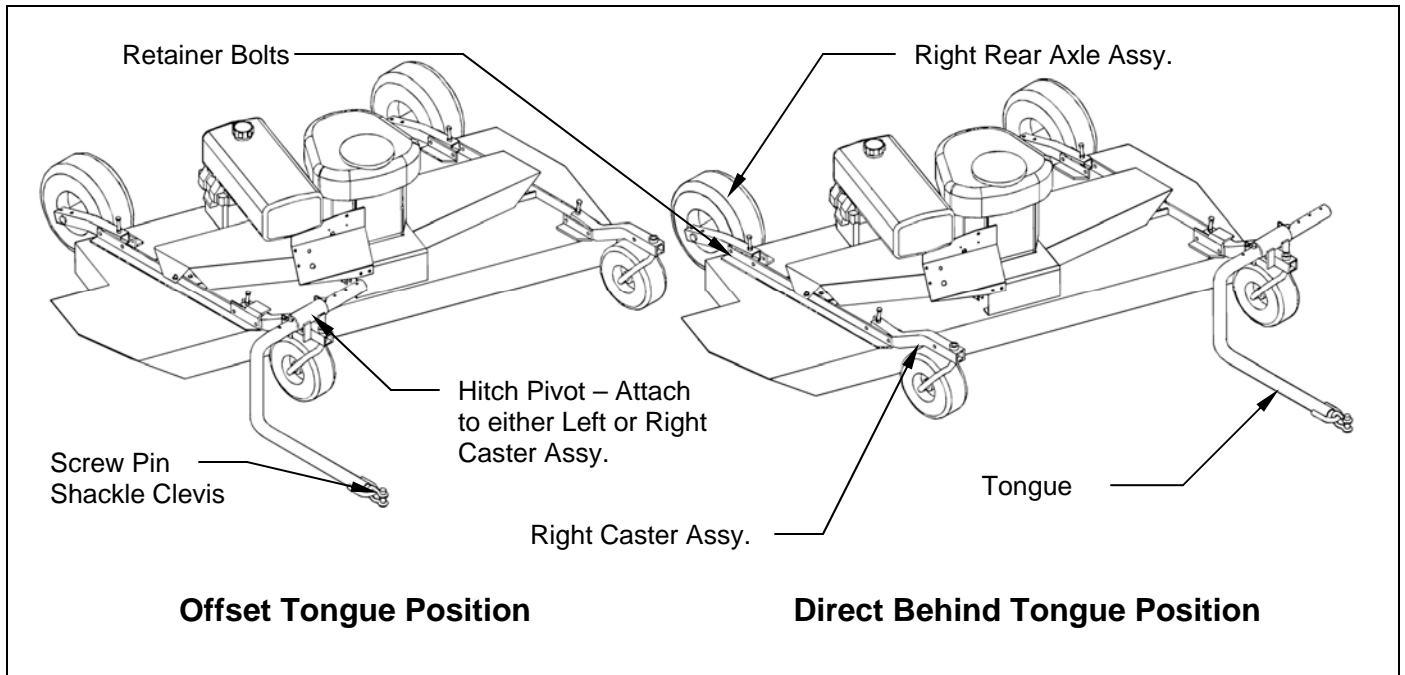
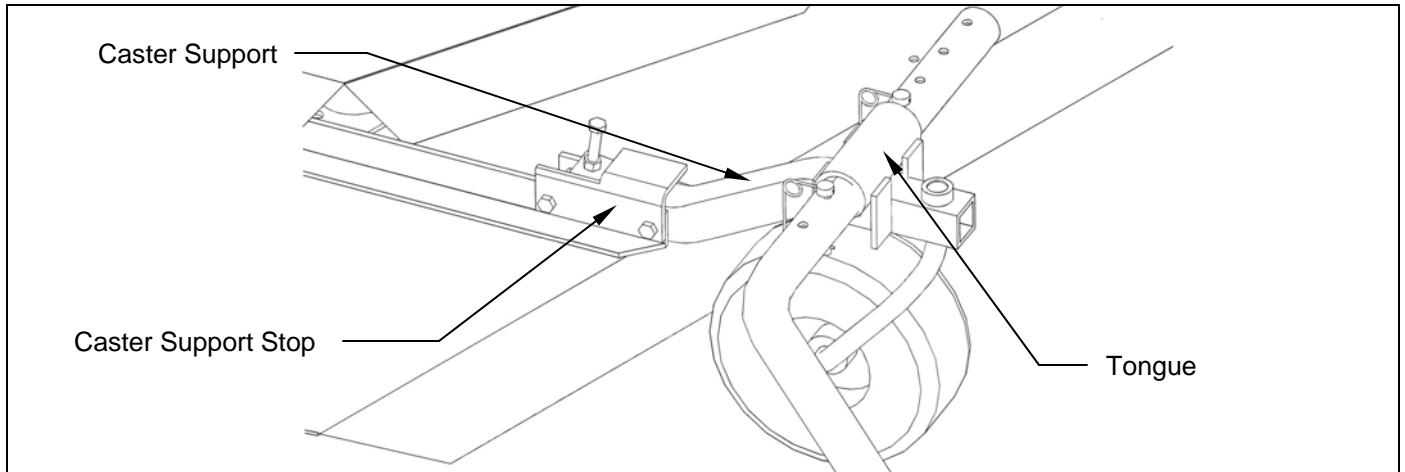

Figure 1. Assembly of Mower Wheels and ATV Tongue
Figure 2: Installation of Caster Support Stop
2. Install the two caster assemblies in the retainers on the front of the mower deck. **See figure 1.** Before securing the caster supports, determine which side of the mower the tongue will be placed on and install the caster support stop on the tongue side. **See Figure 2.** Secure with 3/8" x 2-3/4" hex head bolt, lock washer, and nut provided in the retainer areas. Secure remaining caster support with 3/8" x 2-1/2" hex head bolt, lock washer, and nut provided in the retainer areas.
3. Install the two rear axle assemblies in the retainers on the rear of the mower deck. The tire should be to the left of the axle support. **See figure 1.** Secure with 3/8" x 2-1/2" hex head bolt, lock washer, and nut provided in the retainer areas.
1. The tongue can be installed either on the left or right caster assembly depending on how the wing mower will be towed. **See figure 1.** Secure the hitch pivot on the chosen caster assembly with the 3/8" x 2-1/2" hex head bolt, lock washer, and nut provided.
**Note:** When pulling the wing mower directly behind, it is most maneuverable when the hitch pivot is fastened on the left carrier arm. **See Figure 1.** When pulling the wing mower in the offset position, it is most maneuverable to have the hitch pivot fastened on the right carrier arm. **See Figure 1.**